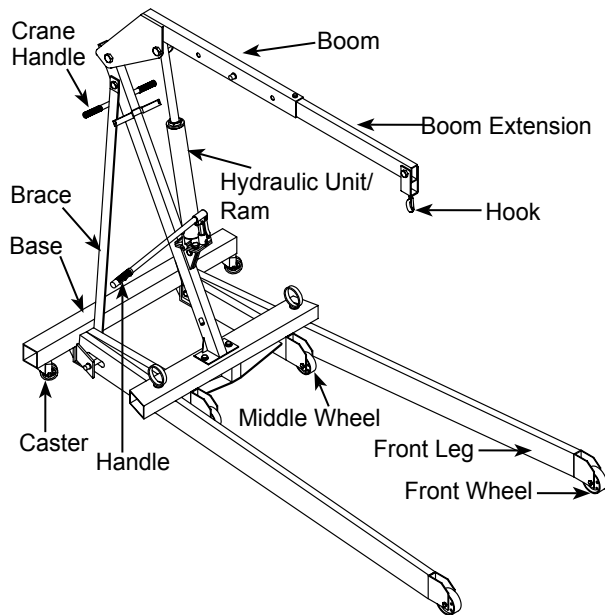

Figure 1 - Model 44010 Components
1. Make sure all parts are present (refer Fig. 1 & 3). If any parts are missing or damaged, contact customer service.